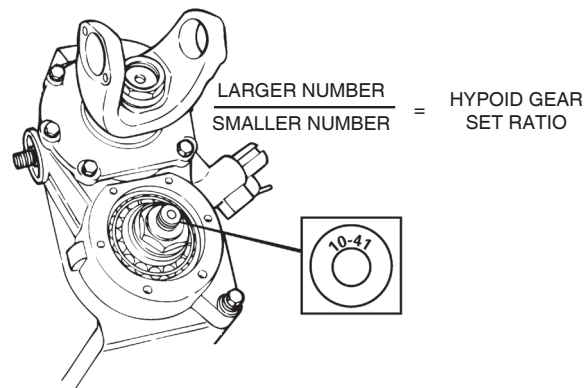

Figure 4.19
2. Look into the differential housing. Identify and record the gear set teeth numbers stamped on the drive pinion end. Figure 4.19.
3. Calculate the hypoid gear set ratio by dividing the larger number by the smaller number. Figure 4.19.